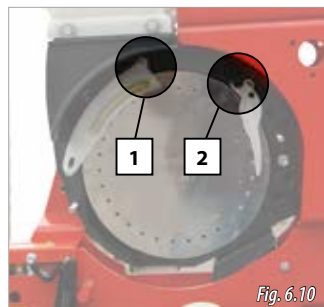

Fig. 6.10
- 2- Pull the seed selector (1, Fig. 6.10) to remove it from the securing groove. Then loosen the knob of the seed ejector in order to remove it (2, Fig. 6.10).